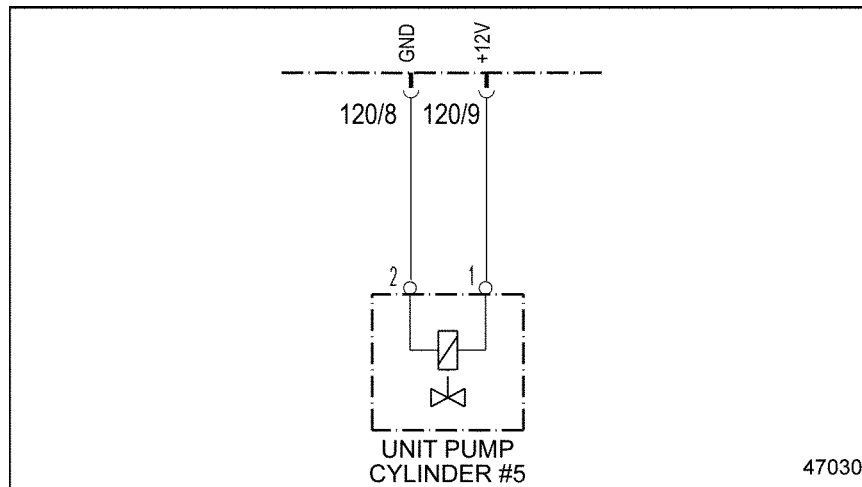

Figure 48-1 Electronic Unit Pump #5
2. Measure the voltage between pins 1 and 2 of Electronic Unit Pump #5. See Figure 48-1.